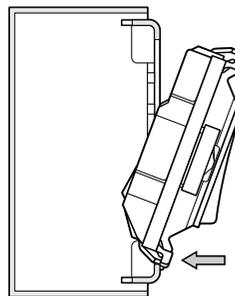

Fig 1
6. Once the module has been wired, carefully push it back through the grid frame until the clip on the top of the module has clicked into place. (Fig. 1)